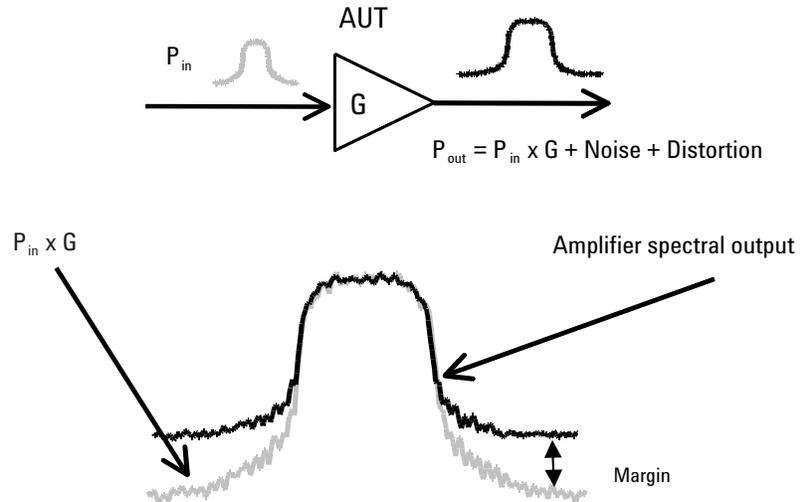

Figure 5. Test signal ACL vs amplifier ACL
As shown in Figure 5, the amplifier spectral output (P_{out}) is comprised of the input signal (P_{in}) multiplied by the gain (G) plus the amplifier's added noise and non-linear distortion. To accurately characterize or measure the amplifier's ACL or ACP, it is important to exclude the contribution of the test signal. The only way to exclude the test signal's contribution is to use a "real" input test signal that has very low ACL performance and will not contribute to the amplifier's adjacent channel spectral output.